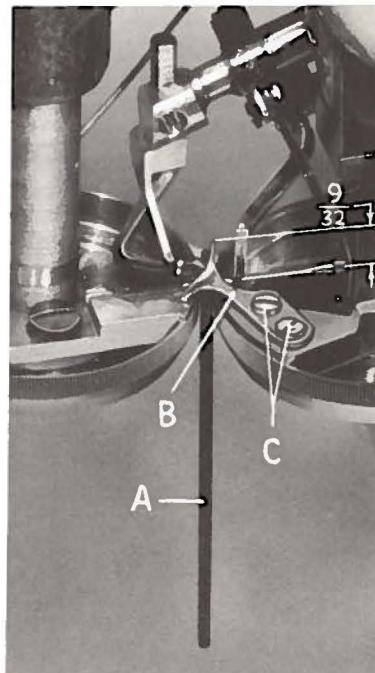

Fig. 11
The stationary position of the stitch tongue is set to gauge No. 21227 CA (A, Fig. 11). Place gauge No. 21227 CA (on end) between the feed cups and allow front cup to bear against gauge, with left edge almost extending to point end of stitch tongue (B).
NOTE: If standard stitch tongue (No. 41397 B, marked "DF") is used, set stitch tongue laterally to obtain a measurement between the stitch tongue point and center of needle of 9/32 inch (Fig. 11).